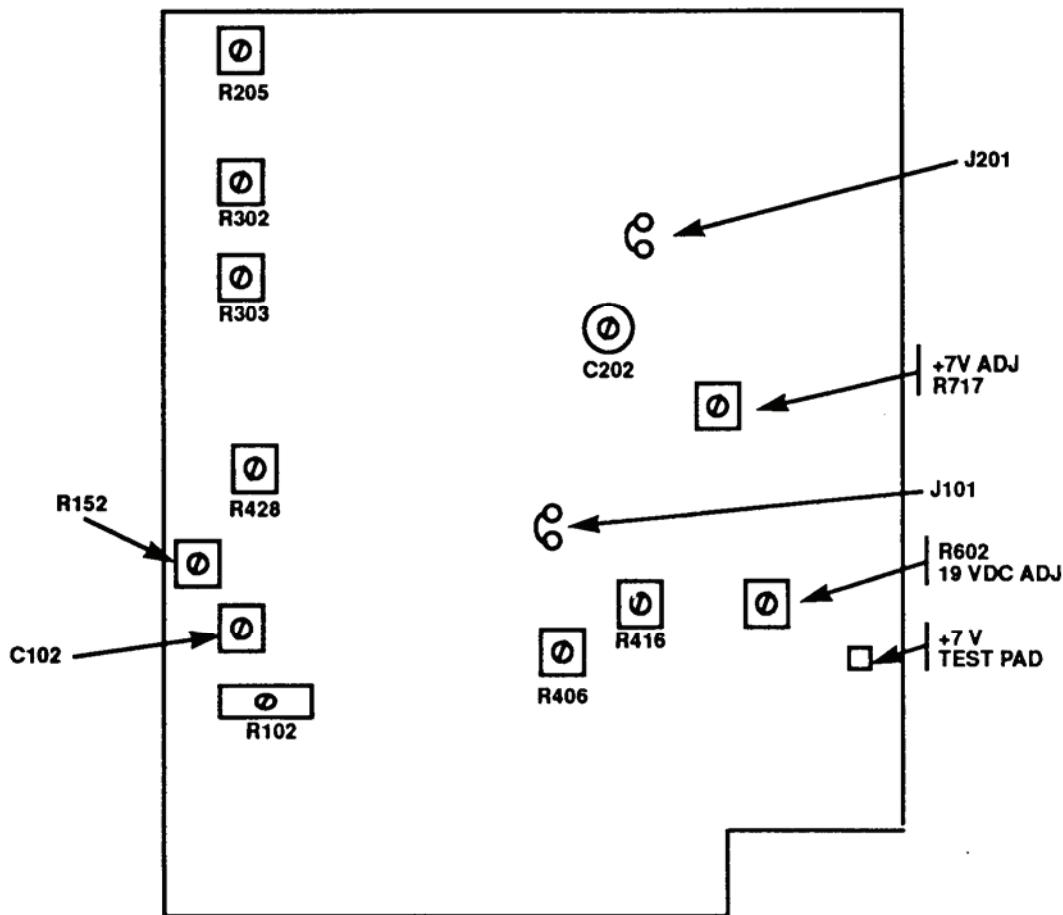

Figure 2. Adjustment locations, model 3466A - top view.
- (1) Set calibrator to **STANDBY**.
- (2) Press TI **RANGE 20** pushbutton.
- (3) Set calibrator for a 19 V dc output. Adjust R602 19 VDC ADJ (fig. 2) for a 19.000 V TI indication (R).
- (1) Adjust R416 (fig. 2) for a TI indication equal to calibrator output display rounded to TI digits of resolution.
- (2) Adjust R406 (fig. 2) for a TI indication equal to calibrator output display rounded to TI digits of resolution.
- (3) Adjust R428 (fig. 2) for a TI indication equal to calibrator output display rounded to TI digits of resolution.
- (3) Set calibrator for a 19 V, 200 Hz output. Adjust R303 (fig. 2) for a 19.000 TI indication (R).
- (4) Set calibrator for a 1.9 V, 200 Hz output. Adjust R302 (fig. 2) for a 1.900 TI indication (R).
- (5) Repeat (3) and (4) above for best compromise.
- (6) Set calibrator for a 19 V, 10 kHz output. Adjust R102 (fig. 2) for a 19.000 TI indication (R).
- (7) Set calibrator for a 1.9 V, 10 kHz output.
- (8) Press TI **RANGE 2** pushbutton. Adjust C102 (fig. 2) for a 1.9000 TI indication (R).
- (9) Set calibrator for a 1.9 V, 100 kHz output. Record TI indication.
- (10) Press TI **RANGE 20** pushbutton.
- (11) Set calibrator for a 19 V, 100 kHz output. Adjust C202 (fig. 2) for a TI indication numerically the same as recorded in (9) above (R).
- (12) Set calibrator for a 1.9 V, 100 kHz output.
- (13) Press TI **RANGE 2** pushbutton and record TI indication.
- (14) Repeat (10) through (13) above until numerical indications are the same, or best compromise.
- a. Measure voltage at +7V TEST PAD (fig. 2) with multimeter. If required, adjust +7V ADJ R717 (fig. 2) for a multimeter indication between 6.99 and 7.01 V dc (R).
- e. Connect multimeter to J101 (fig. 2). Adjust R152 (fig. 2) for a multimeter indication of $0 \pm 100 \mu$ V (R).
- f. Connect multimeter to J201 (fig. 2). Adjust R205 (fig. 2) for a multimeter indication of $0 \pm 200 \mu$ V (R).